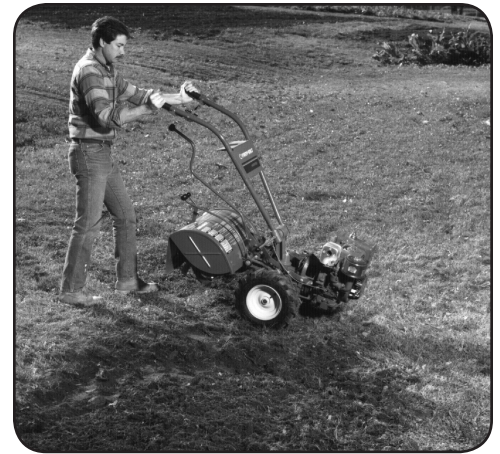

Figure 4-5
1. find the balance point between the engine and the tines by lifting up the handlebars. See Figure 4-5.
5. Resume forward operation, and lift the handlebars until the tines are off the ground. Refer to Figure 4-5. Find the balance point between the engine and the tines. Then push the handlebars in the direction of the turn. Be very careful to keep feet and legs away from the tines, which should be disengaged. Let the powered wheels do the hard work.